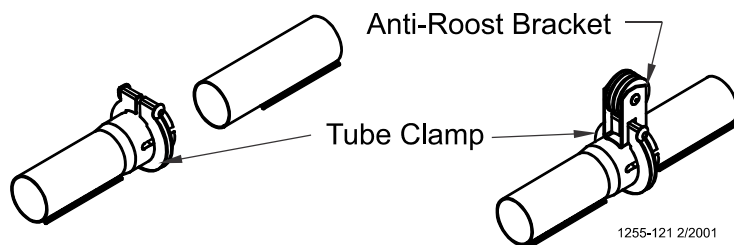

Figure 37. Tube Clamp and Tube Clamp with Anti-Roost Bracket
4. Place a Tube Clamp Assembly or Clamp/Anti-Roost Bracket at each joint. Figure 37. shows the standard Clamp and Clamp/Anti-Roost Bracket. Systems using 9' or 10' [2.7 or 3 m] tubes require a Clamp/Anti-Roost Bracket at every **fifth** joint. Systems using 12' [3.7 m] tubes require a Clamp/Anti-Roost Bracket at every **fourth** joint. All other joints in the system use the standard Tube Clamp Assembly.